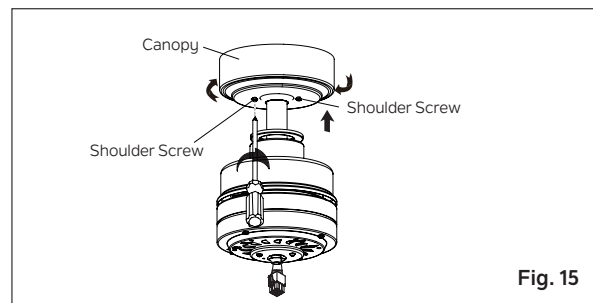

Fig. 15
Step 2. Raise the canopy to the mounting bracket. Place the key hole slots in the canopy over the shoulder screws in the mounting bracket. Rotate the canopy (clockwise) until the canopy locks in place against the shoulder screws (at the narrow ends of the key hole slots). Tighten the two shoulder screws to secure the canopy in place. (Fig. 15)